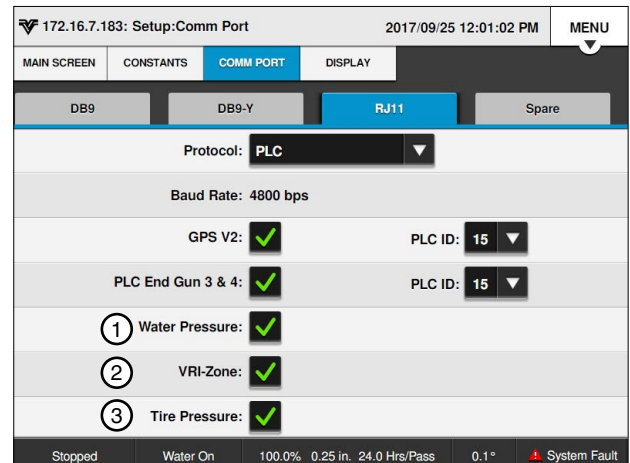

Figure 43-1 PLC Screen
2. Check the **Water Pressure** checkbox to enable the monitoring system. Refer to Figure 43-1.
2. Check the Tire Pressure checkbox to enable the monitoring system. Refer to Figure 43-1.
VRI-Zone is used to set the protocol for the VRI-Zone option. Refer to Figure 43-1.